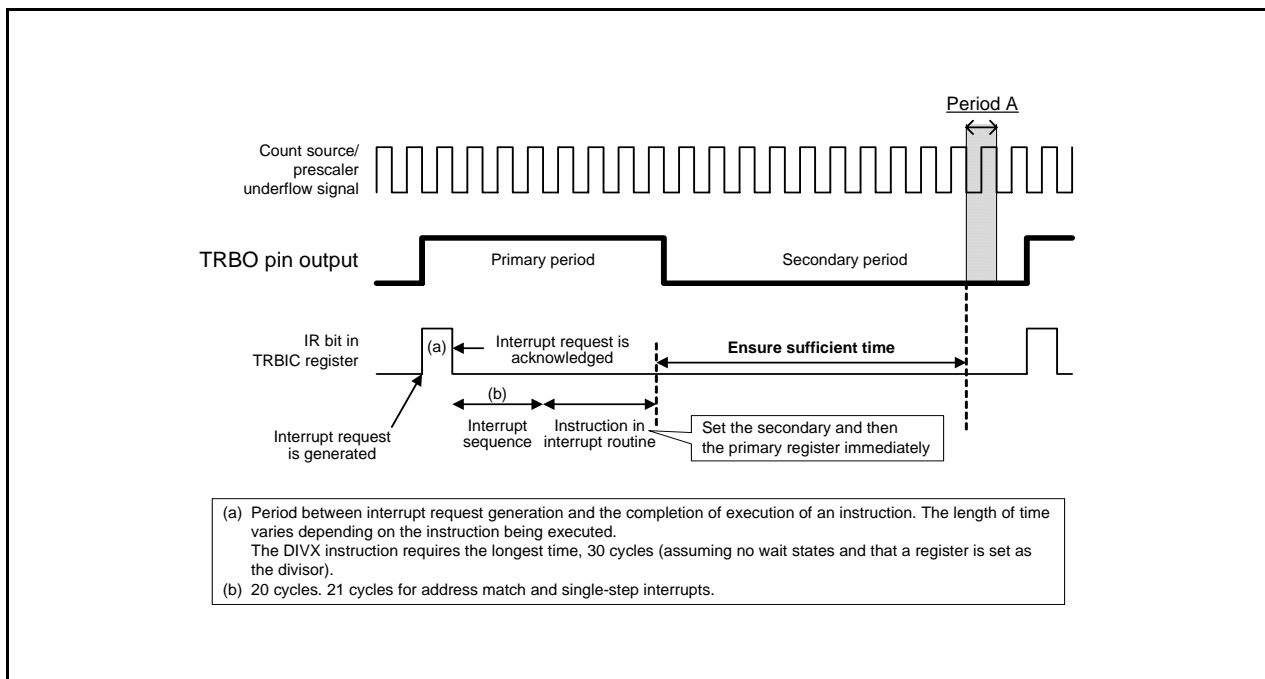

Figure 21.2 Workaround Example (a) When Timer RB interrupt is Used
- (1) To write to registers TRBPRE and TRBPR during count operation (TCSTF bit is set to 1), note the following points:
- (2) To change registers TRBPRE and TRBPR during count operation (TCSTF bit is set to 1), synchronize the TRBO output cycle using a timer RB interrupt, etc. This operation should be performed only once in the same output cycle. Also, make sure that writing to the TRBPR register does not occur during period A shown in Figures 21.2 and 21.3.
As shown in Figure 21.2, write to registers TRBSC and TRBPR in the timer RB interrupt routine. These write operations must be completed by the beginning of period A.